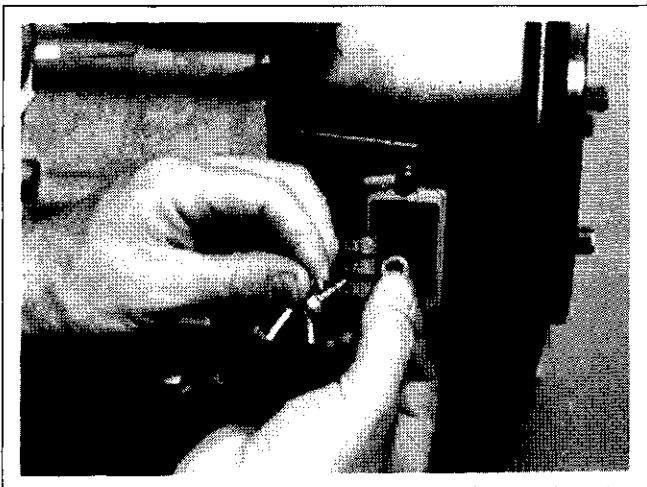

Figure 11-60. Connecting Ground Lead to Housing.
1. Connect the rectifier-regulator ground lead to the housing with a washer next to the housing and screw through the eyelet as shown in Figure 11-60.